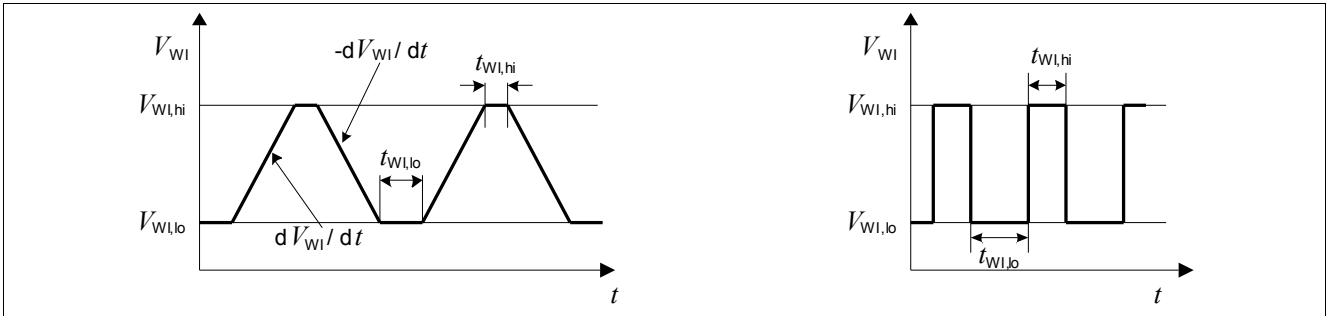

Figure 9 Test Pulses Watchdog Input WI
2) For details on the test pulse applied, see Figure 9.